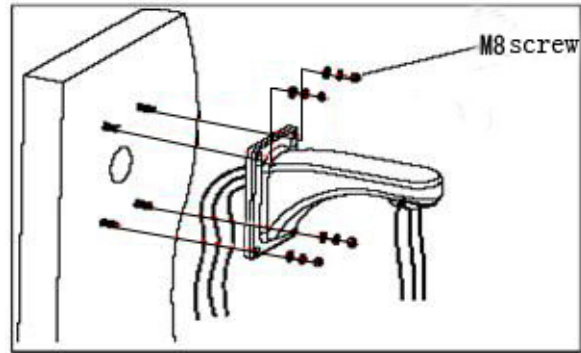

Fig. 3
b. As shown in Fig 3, fix the wall hanging bracket on the wall with wire and cable through it.